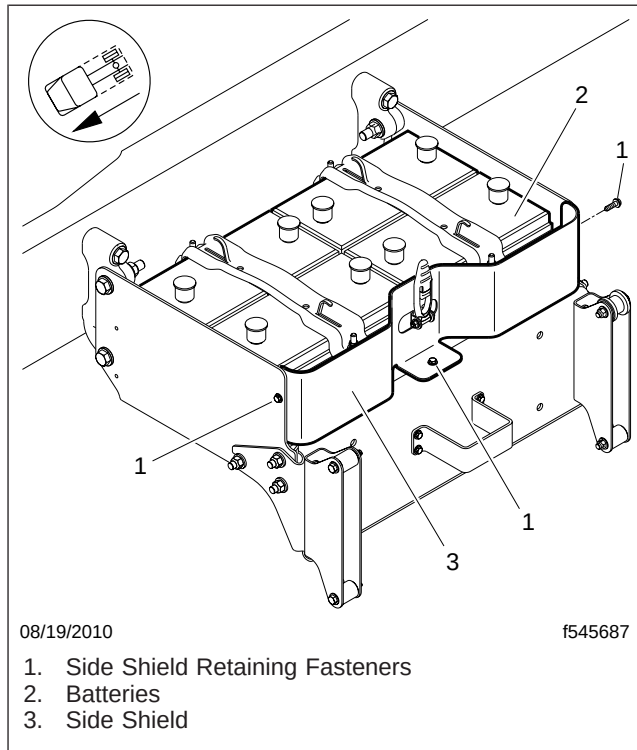

Fig. 6, Side-Rail Battery Box Assembly
3. Remove the three bolts that secure the side shield to the battery box and remove the side shield. See Fig. 6.